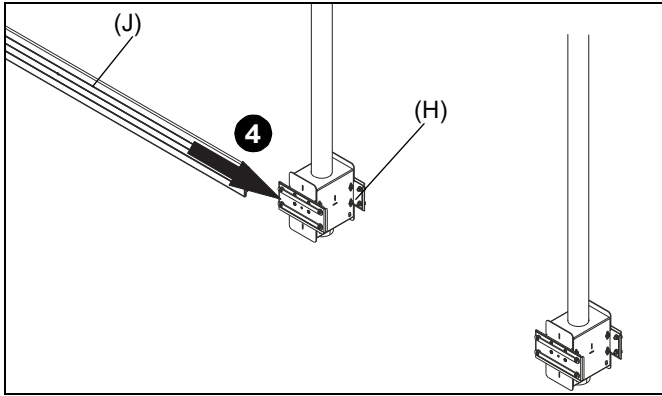

Figure 4
- Slide 2 x 1 rail (J) onto one of two assemblies (H) attached to column. (See Figure 4)